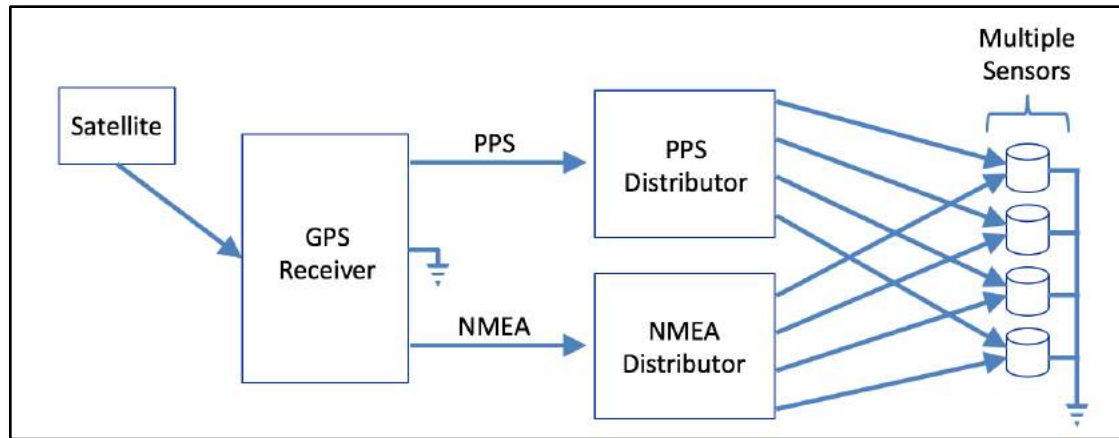
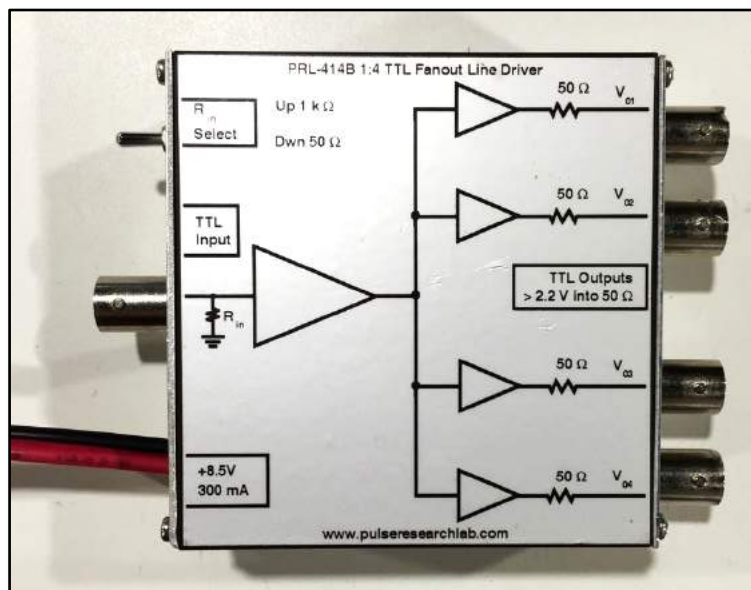

Figure 46. NMEA/PPS Signals Synchronized on Multiple Sensors
Figure 47. NMEA/PPS Signals Distributed by PRL-414B-BNC Buffer Amplifier
Figure 46 illustrates the sending of the NMEA sentence and PPS signal from the GPS receiver to a *single* sensor.
- Split and amplify signals using distributors (Figure 46) to keep the signal edges sharp and strong. We recommend that you distribute the PPS signal with the PRL-414B-BNC (Figure 47).⁶